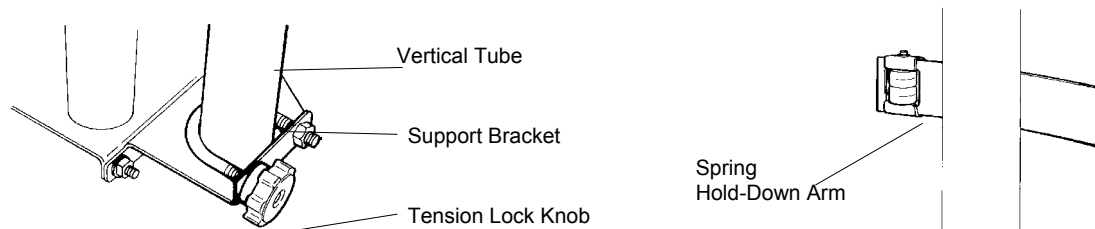

Figure 46: Installing the Hold-Down Bar
1. Attach the top and bottom support brackets (Figure 46) with four 5/16" x 3/4" cap screws and nuts. The top bracket is marked "T" and the bottom bracket is marked "B".
3. Attach the top and bottom tension locks as shown in Figure 46.